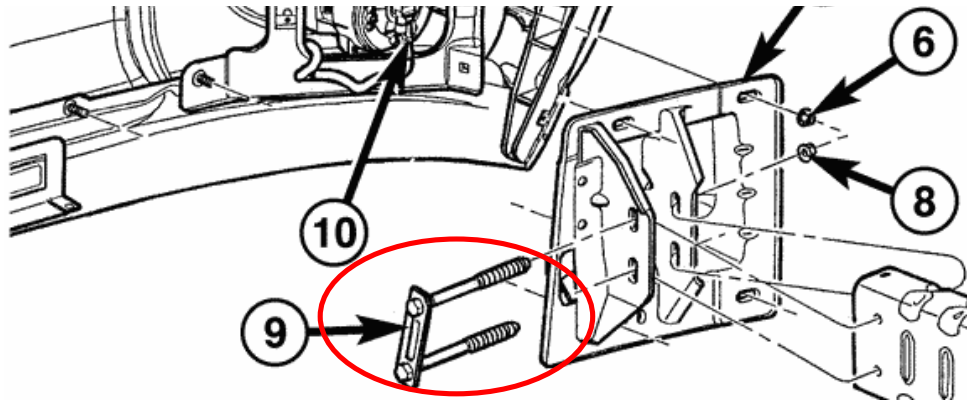

Figure 7 (FRAME HORN DIAGRAM)
- G. Using an 18mm socket remove the four nuts on either side of the frame to remove the frame horns. (Ref. Figure 7).